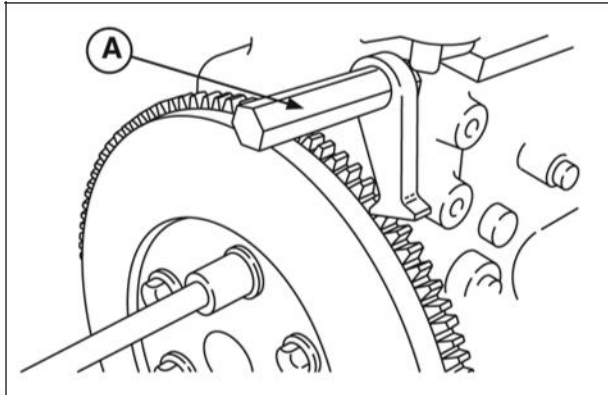

Figure 9
4. Install flywheel and flywheel holder (A, Figure 9).